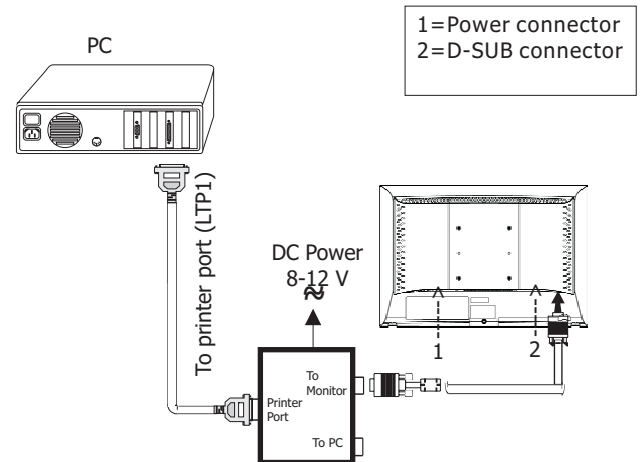

Fig. 3
- Step 2: Connecting printer cable and D-Sub cable of monitor as Fig. 3